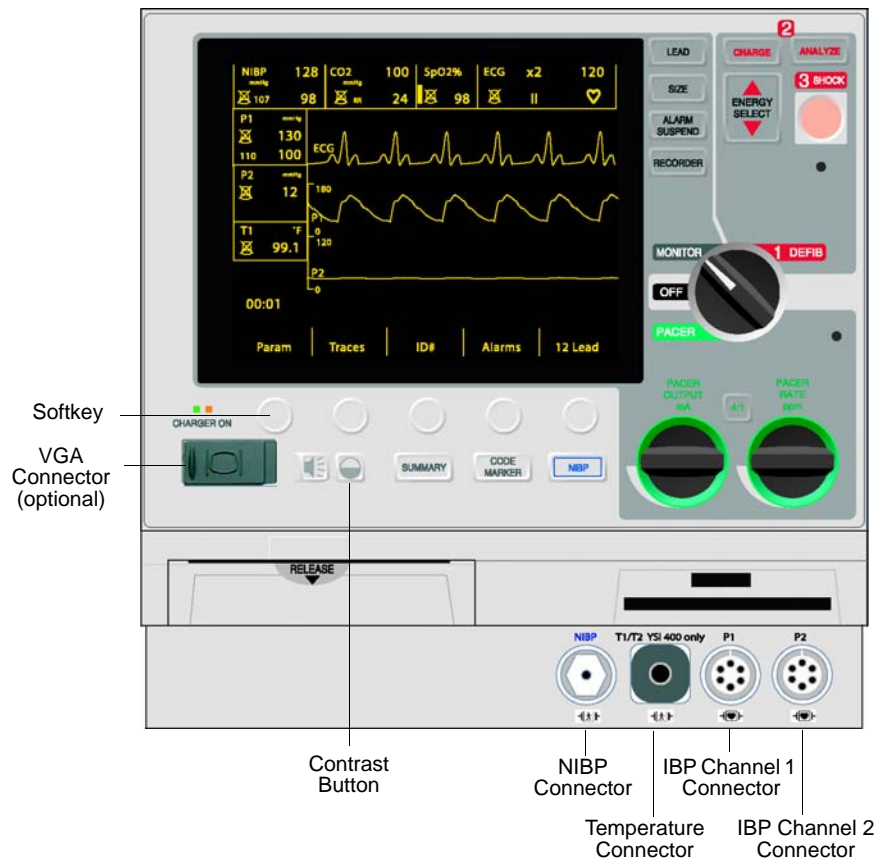
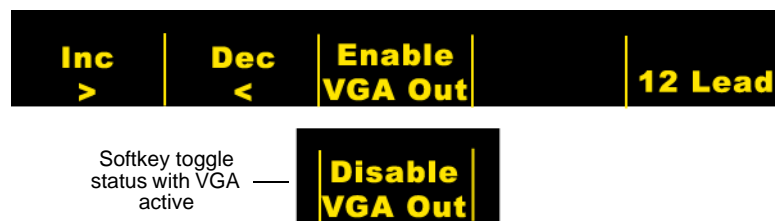

Figure 1: M Series CCT
Figure 5: Contrast menu
The M Series CCT is an M Series unit with integrated features that provide additional display capabilities. The following sections describe the additional features. A typical M Series CCT front panel is shown in Fig. 1.
An external VGA display (monitor equipped with industry standard 15-pin VGA connector) can be connected to an M Series CCT unit that is equipped with the optional VGA connector (  symbol) on the front panel shown in Fig. 1.
1. Press the **CONTRAST** button (see Fig. 1 on page 1), the *Contrast* menu appears (see Fig. 5):